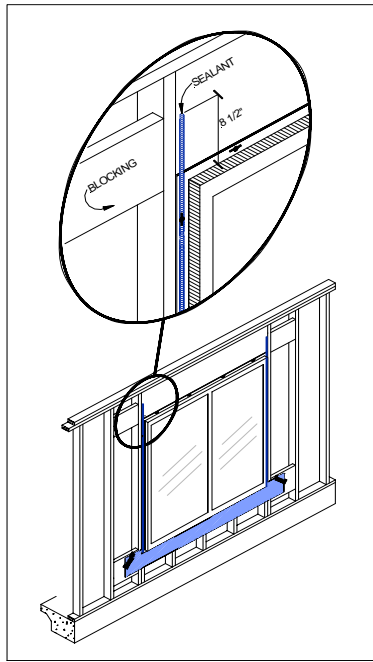

Figure 7.1
7. Apply a 3/8” continuous bead of sealant over the top of the nailing fin on the exterior side of the window over the jamb sides only. Once again make sure that the sealant is applied over pre-punched holes of the nailing fin and also covering the heads of the fasteners used in installing the window. The sealant applied on the jamb side nail fin of the windows, should extend above the window approximately 8 ½” so that the jamb flashing can bed into it all the way to the top of the flashing. **See Figure 7.1**